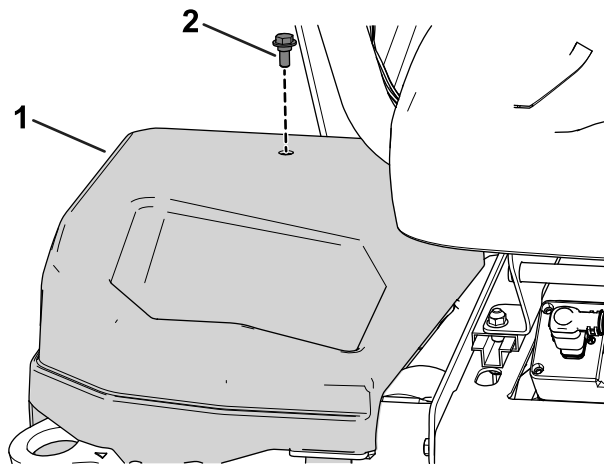

Figure 47
5. Install the cover to the right side of the machine (Figure 47).